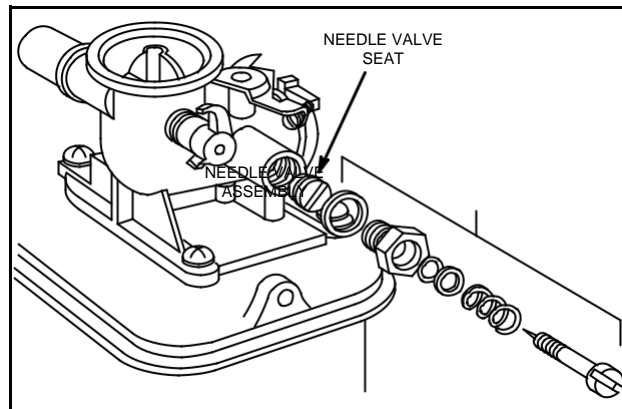

Fig. 167 - NEEDLE VALVE ASSEMBLY, SCREW-IN TYPE
3. Install needle valve assembly, Fig. 167.